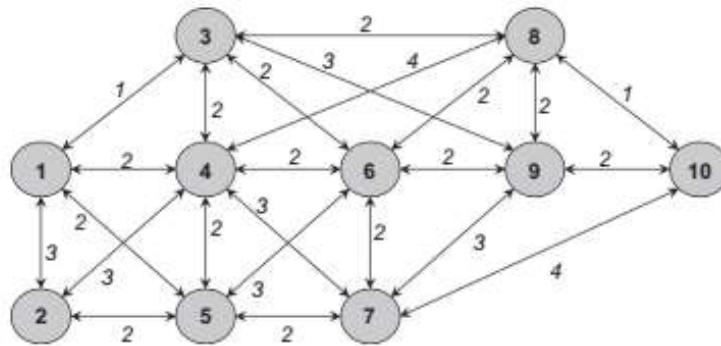

Figure 2.14 Simple assignment network with link travel times.
- Figure 2.14 amends the previous example by adding link **travel times (in minutes)** for each zone-to-zone connector